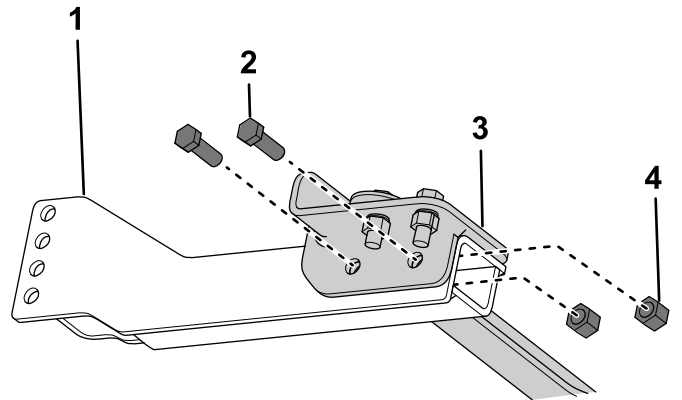

Figure 4
11. Use 4 hex-head bolts (1/2 inch, GR8) and 4 nylon locknuts (1/2 inch) to loosely secure the angle brackets to the skid plate attachment (Figure 4).